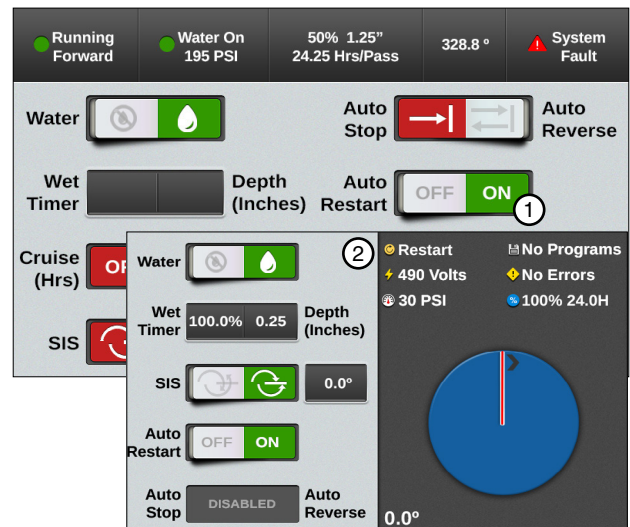

Figure 29-1 1. Auto Restart On
1. Push **Menu** and **Controls**. Refer to Figure 29-1.